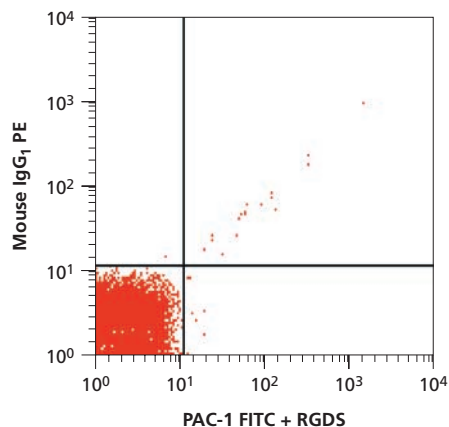

Figure 7 Unstimulated fresh whole blood (gated on R1)
4. Use platelets stained with an isotype control or unstimulated platelets stained with activation-dependent monoclonal antibodies to adjust FL1 and FL2 PMT voltages. FL1/FL2 baseline signals should be depicted squarely in the first decade in an FL1 vs FL2 dot plot. For PAC-1, use resting platelets stained with PAC-1 and RGDS (Figure 7).